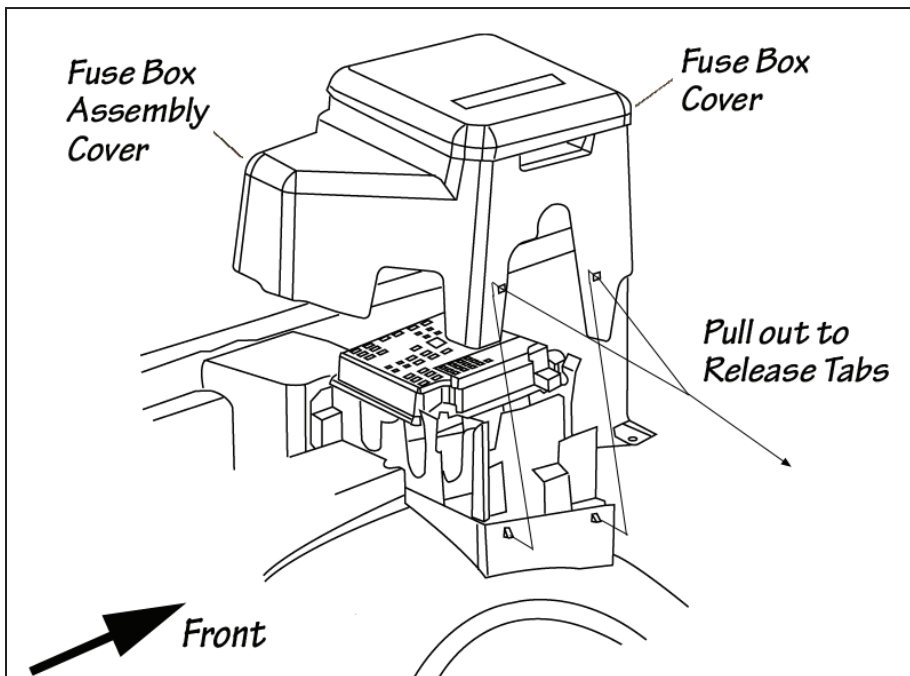

Figure 5
9. Push out on the tab closest to the fender and the two locking tabs on the side of the electrical center and lift up to gain access to the C100 Connector. Disconnect the C100 Connector. See **Figure 5**.
10. Install the ground ring terminal on the Banks Brake wire harness onto the bolt on the bottom of the electrical center closest to the fire wall. See **Figure 5**.